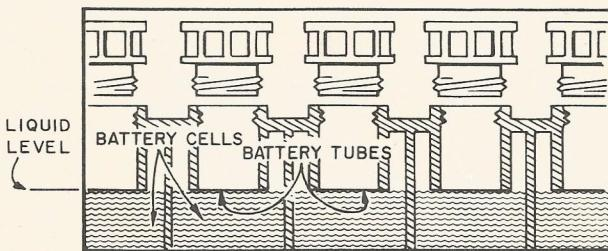

Fig. 2
4. If battery has removable filler vents, check periodically to make sure battery electrolyte (liquid) covers the plates. If liquid is down, add only DISTILLED WATER to bring level up. Figure 2 shows typical battery construction. This also helps purge excessive gas from the cells.